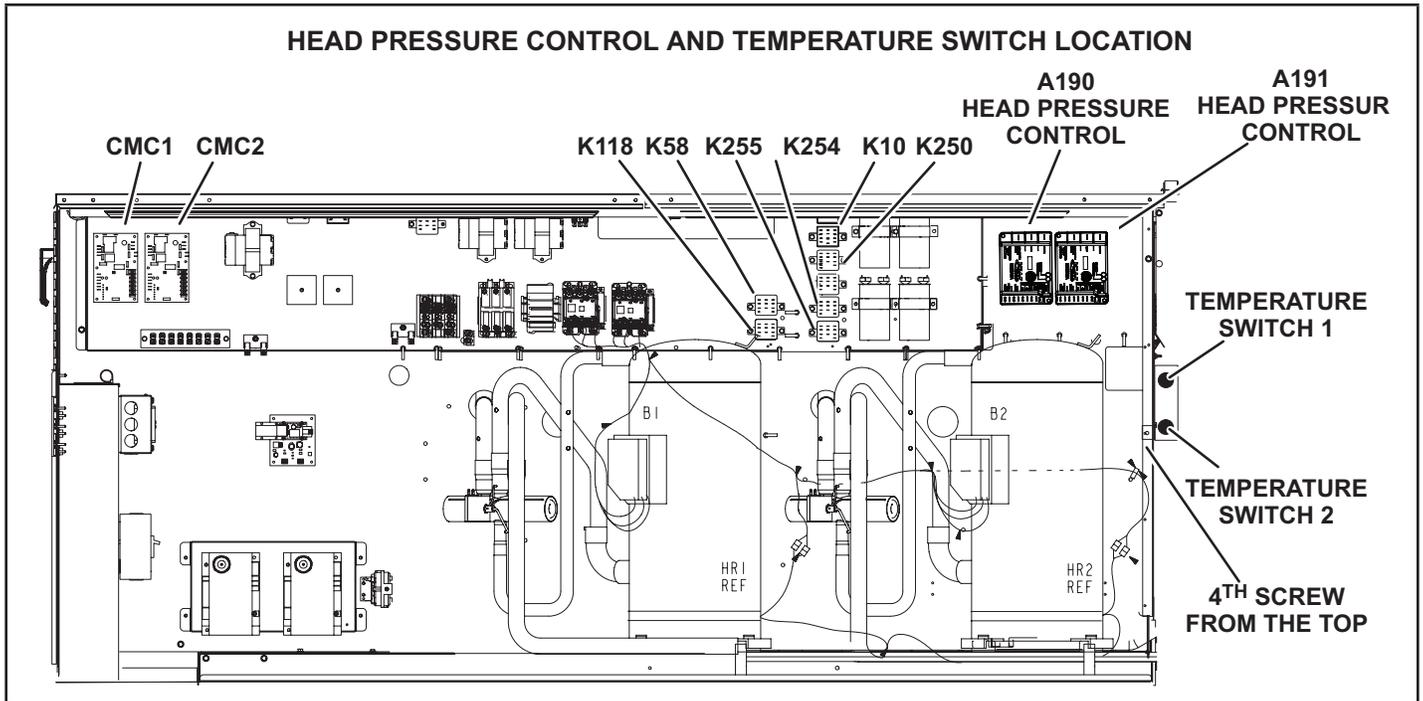

FIGURE 1
- 2 - Install head pressure controls (A190 & A191) in the control section as shown in FIGURE 1. Secure with screws (provided).
- 5 - Install the temperature switch mounting bracket onto the mullion. Align the bracket with the 4th screw from the top of the unit; secure with provided screw. See FIGURE 1.